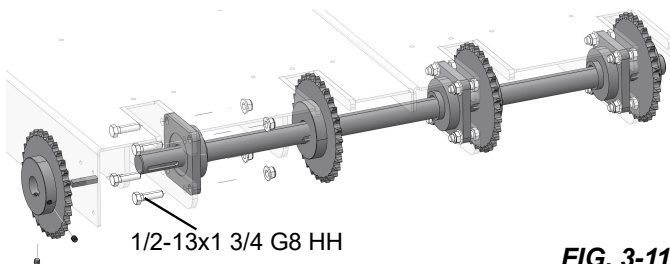

FIG. 3-11
2. Assemble and install the end chain shaft as shown in FIG. 3-11.